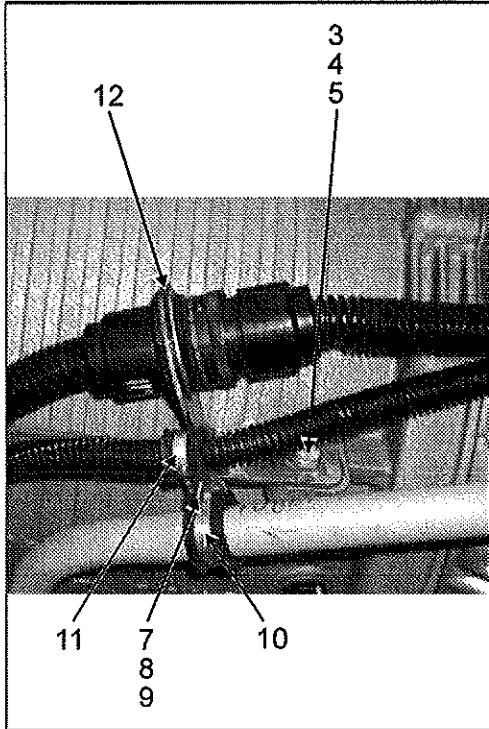
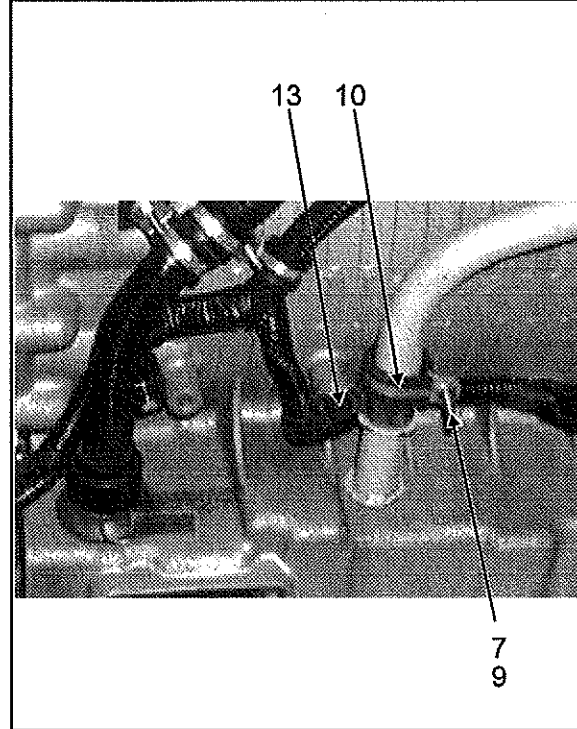

FIGURE 5
FIGURE 6
8. Install bracket (12) on the other transmission housing lug using bolt (3), washer (4) and nut (5). See **Figure 5**. Insert transmission main harness connector in bracket (12) then secure using existing nut and washer. Screw main harness connectors.
9. Secure transmission sensors' harness to oil filler pipe using retaining clips (11 and 10), screw (7), lock washer (8) and nut (9).
10. Attach transmission sensors' harness to transmission housing using retaining clip (13) (**Figure 6**). The retaining clip (13) is fastened with the one used to retain oil filler pipe.
11. Install retaining clip (10) on oil filler pipe using screw (7) and nut (9). The retaining clip screw will be used further in this bulletin to retain the transmission harnesses' shield.